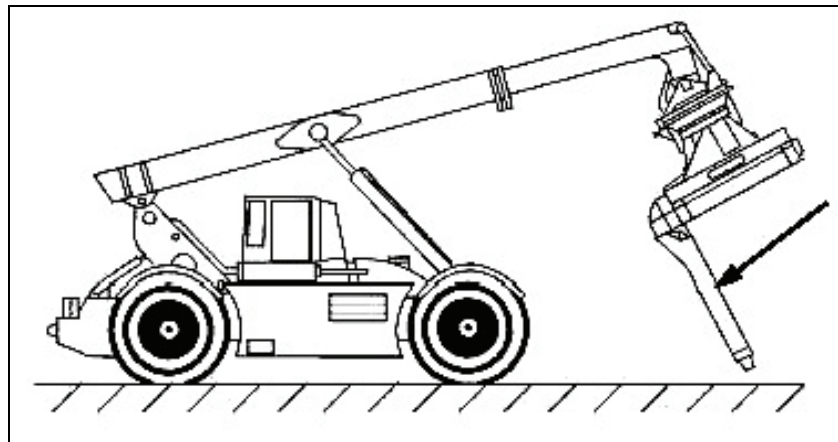

Figure 3-161. Tilting the Tophandler/Forklift Kit to the Full Rearward Position
- g. Slowly tilt the tophandler/forklift kit to the full rearward position while raising the boom and this will allow the upper fork arms to unfold downward (see Figure 3-161).